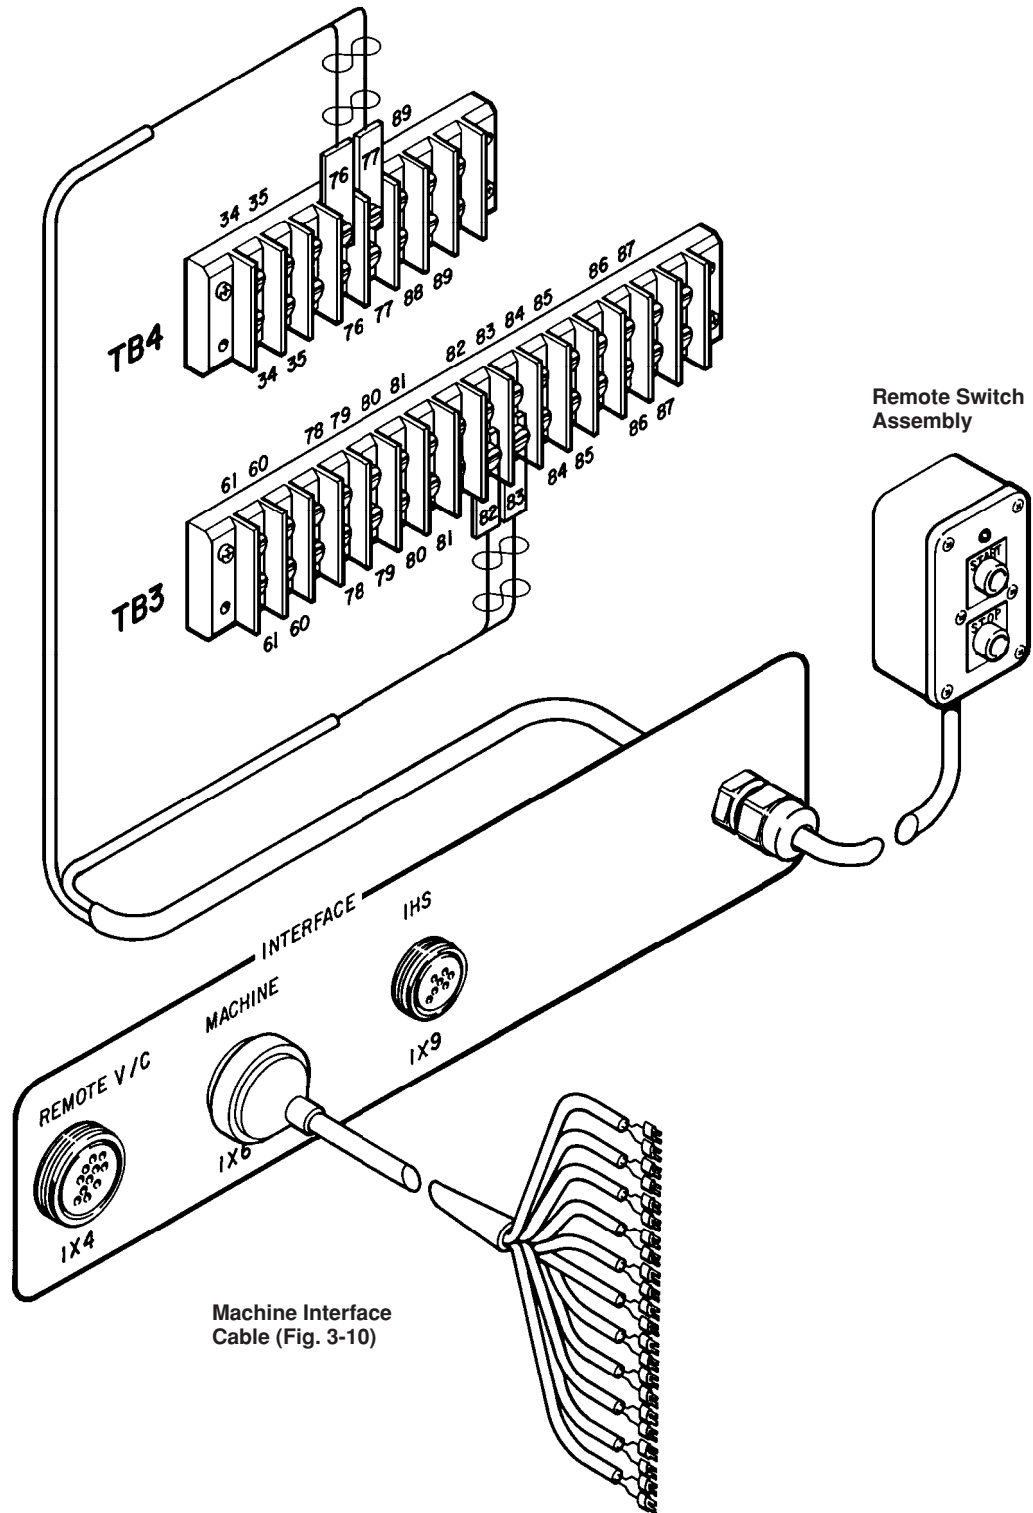

Figure 3-9 Machine Torch System Interconnection Diagram without THC Option
Installing the MAX200 without the THC option requires the user to connect the MAX200 to the cutting machine and to connect the Remote Switch. See Figure 3-9 to make interconnections.
2. Feed the remote switch cable through the feed-through at the rear of the power supply. Locate terminal strips TB3 and TB4 on the inside rear panel, right side. Connect the remote switch cable pairs as follows (see Figure 3-9):